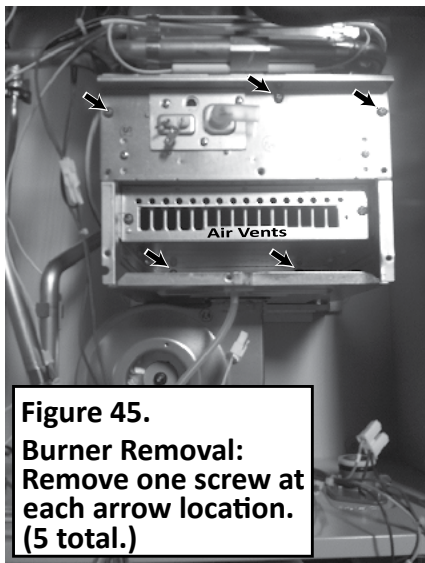

Figure 45.
are difficult to remove, lift the burner while turning the screws. (See Figure 45.)
- 6.3.1 Grasp an oval air vent on either side of the burner with a pair of pliers. (See "Air Vents" in Figure 45.)
- 2.1 Insert and hand tighten two screws below the burner, at the back (Figure 45). These screws will secure to the back of the cabinet. You may need to push the assembly up some in order to line up the holes.
- 2.2 Insert three screws along the top portion of the burner, then hand tighten them. See Figure 45.
3. Install the manifold plate/gas valve assembly (item 102, p. 73) to the combustion chamber as follows: